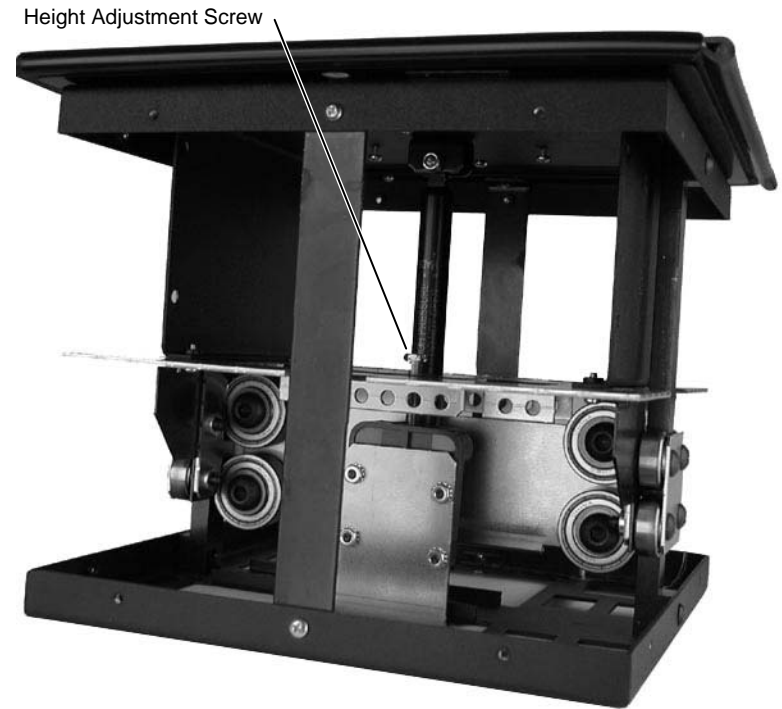

Figure 3-5 — Location of the height adjustment screw
3. Turn the height adjustment bolt clockwise to raise the lifting plate or counter clockwise to lower the plate (figure 3-5).